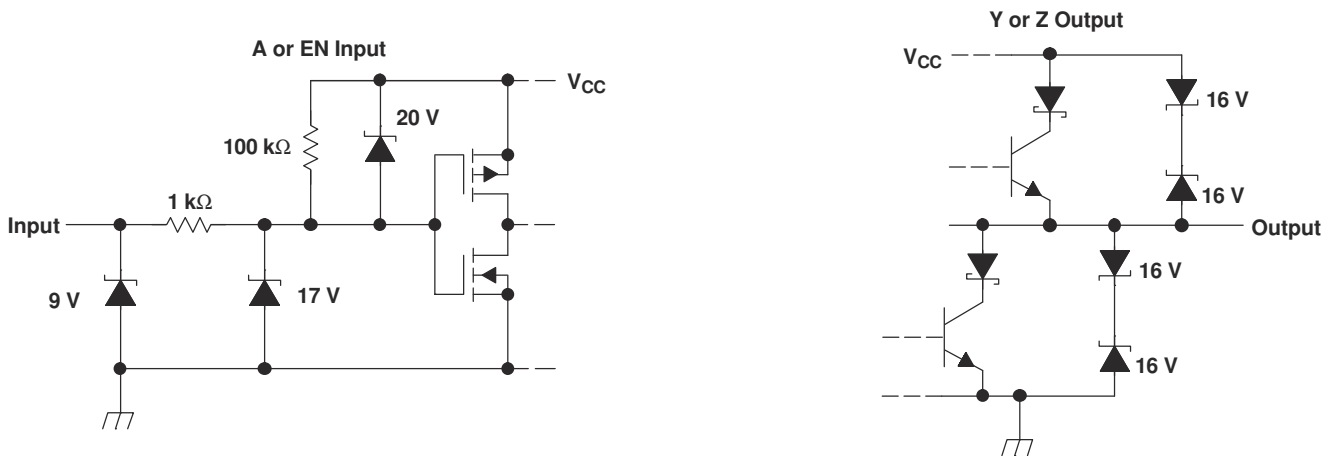

图 6-9. Equivalent Input and Output Schematic Diagrams
- Changed the location of 図 6-9 8